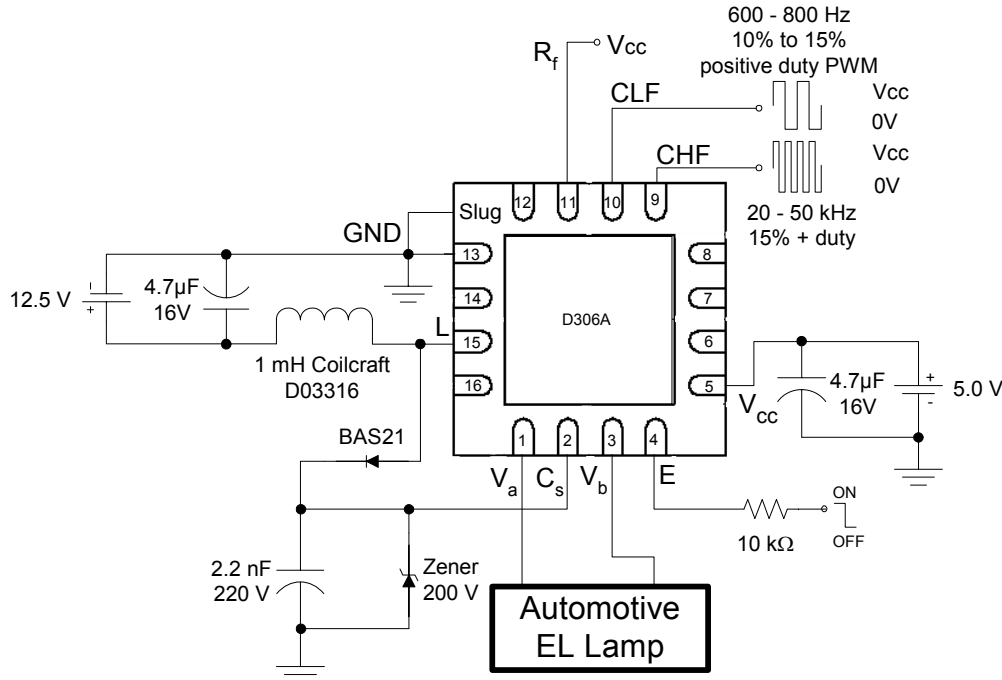

Figure 5—Lamp frequency control via external clock signal
External clock signals may be used to control the D306A IC oscillator frequencies instead of adding external passive components. When clocking signals provide both the inductor charging (HF) and lamp output (LF) oscillator frequencies to drive the D306A IC, the CLF, CHF,  $R_f$ , and  $CR_f$  components are no longer required. A sample configuration demonstrating this cost-saving option is shown in Figure 5 below.